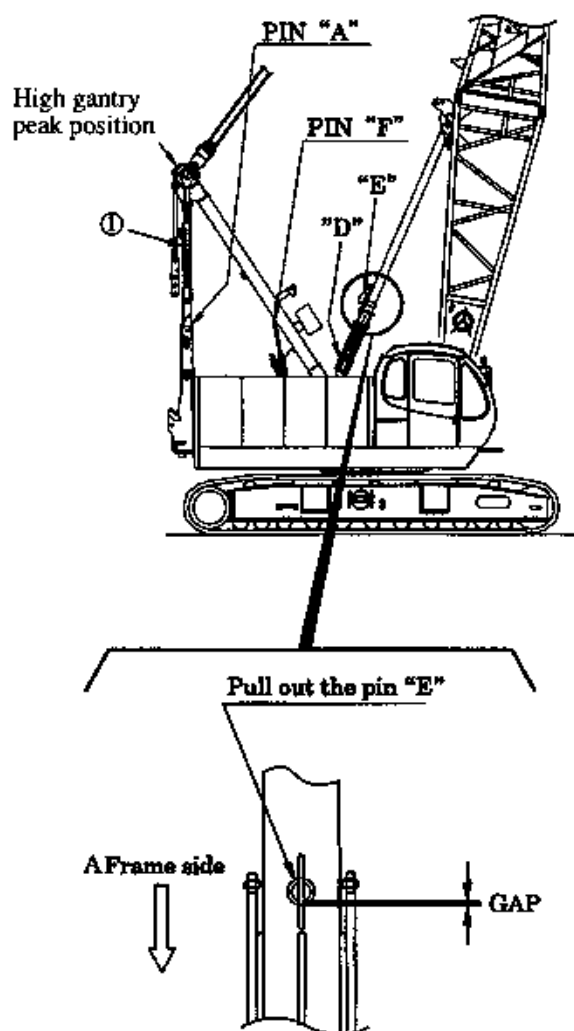

Fig 5-23
4. RESTORATION (FIG. 5-23)
- (1) Insert the gantry cylinder pin "B" (See Fig. 5-23).
- (2) Remove the pins "E" with flag inserted into the backstop. The pins can be easily removed by raising the boom a little (Fig. 5-23). Store the pins (with flag) in the bracket "B" (See Fig. 5-4).